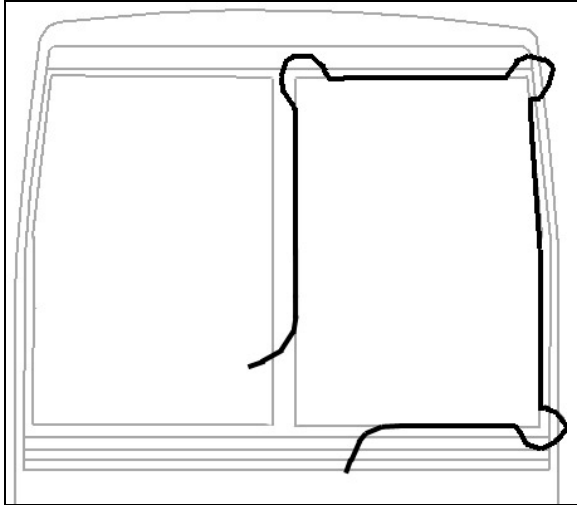

FIGURE 57: WINDSHIELD INSTALLATION USING ROPE
2. Insert rope into rubber extrusion leaving enough length at each corner to make a loop. Spray soapy water onto rope and rubber extrusion (Figure 57).